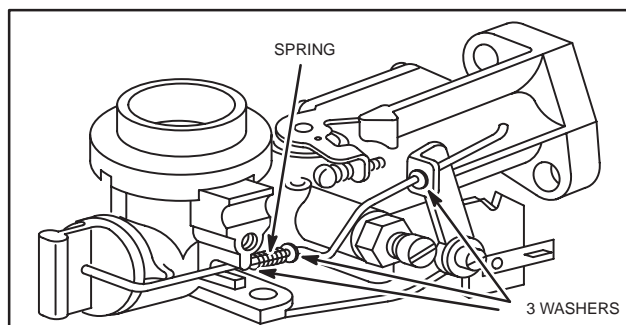

Fig. 185 - ASSEMBLING CHOKE-A-MATIC® LINKAGE
1. To assemble, slip washer(s) and spring over choke link, Fig. 185.